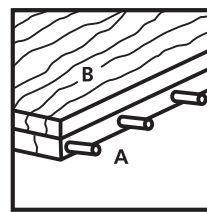

Figure 9
- Remove board A from the clamps and lay it flat on the workbench with the dowel pins facing out. Place board B on top of board A with the side you want to drill facing up. Line up the end of the boards using a square. Board B should slightly overlap the joint edge of board A to ensure the jig lies against the edge of board B rather than the edge of board A. Clamp both boards on both sides of the workbench. See Figure 9.